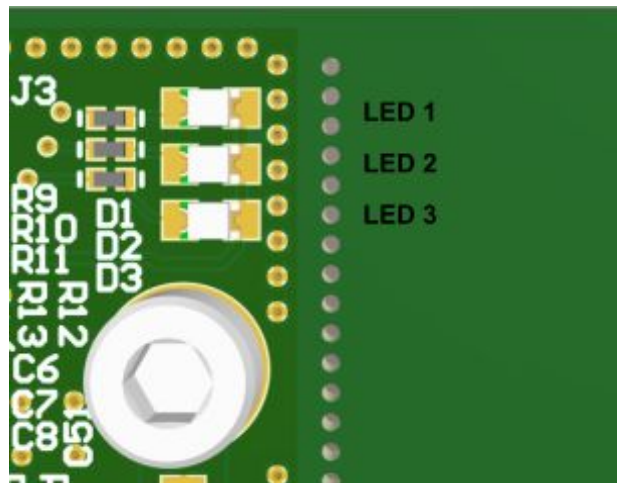

Figure 2: Mounted LEDs on the PCB
2. When the device is appropriately powered, the device will turn on. This is represented by LED 1 (See Figure 2) turning on.